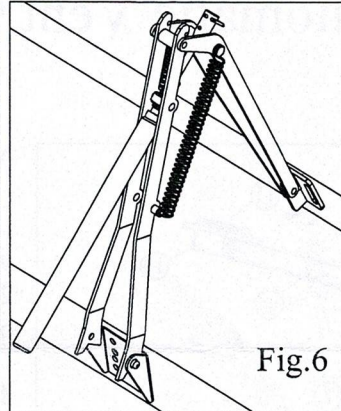

Fig.6
5. Fit the frame bracket to the window sill, see fig.6.